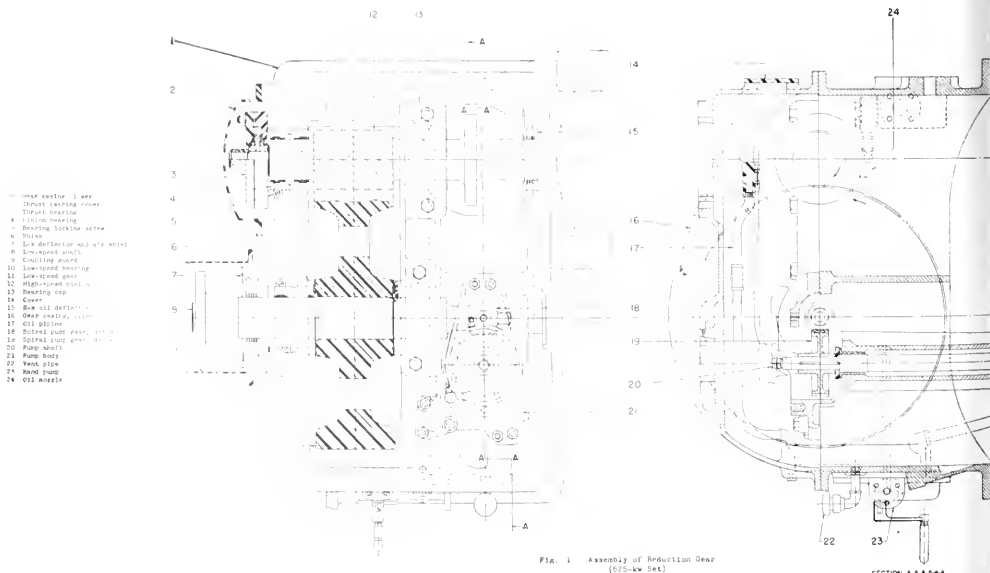

FIG. 1 Assembly of Reduction Gear (600-kw Set)
The reducing gear, Fig. 1, is the single-reduction, single-helical type, and reduces the turbine speed of 5645
The pinion (12), Fig. 1, is forged integral with the shaft. One end of the shaft is provided with a flange that bolts rigidly to the turbine shaft and through which one end of the turbine rotor is supported. The other end of the pinion shaft has an extension on which is assembled the thrust bearing.
The gear wheel (11), Fig. 1, is steel forging and is pressed and keyed on a forged steel shaft (8). One end of the gear shaft is solidly coupled to the generator shaft, and part of the weight of the generator rotor is carried by the gear bearing at that end. The turbine end of the shaft is extended to carry the spiral gear that drives the oil pump and the governor.
The pinion thrust bearing, Fig. 3, is mounted on the generator end of the pinion shaft (3), Fig. 1, and holds the rotor in the proper axial position. This bearing consists of a thrust collar (9), Fig. 3, which is locked to the pinion shaft, and two lapped thrust plates (2) and (8) which are bolted to the casing and between which the collar rotates. The axial position of the collar is determined by the thickness of the spacer between the collar and the shoulder on the pinion shaft against which the collar is held. The running clearance between the collar and the thrust plates is determined by the shims (6) and (7) between the plates, and should be from .008 to .010 inches. In adding or replacing shims, care must be taken that the oil holes line up.
The axial position of the gear-generator rotor is maintained by the thrust faces on the gear bearings which bear against the thrust surfaces machined on the ends of the gear hub. Running clearance of .008 to .010 inches is allowed, and may be adjusted by the shims (6), Fig. 1, between the shoulder on the gear bearings and the casing.
(1) Pump casing. (2) Spiral gear, driver. (3) Spiral gear, driven. (4) Key. (5) Lock washer. (6) Pipe plug. (7) Plate. (8) Set screw. (9) Bushing. (10) Shaft. (11) Bushing. (12) Key. (13) Pump cover. (14) Pump gear, driver. (15) Pump gear, driven. (16) Set screw. (17) Bolt. (18) Body-bound bolt. (19) Unshako nut.
A hand-operated oil pump is mounted on the outside of the gear casing, as shown at (23), Fig. 1, and is used to force a supply of oil to all bearings before the set is started. This is a gear type pump and draws oil from the reservoir at the bottom of the gear casing.